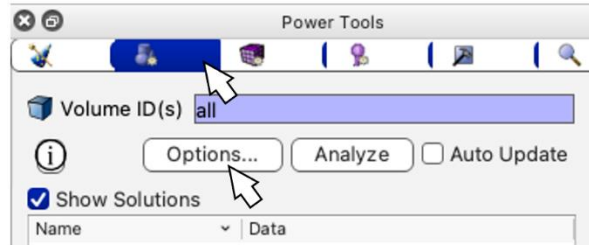

Figure 1. Navigation to Power Tool and Options panel.
1. Navigate to the Geometry Power Tool by clicking on the Geometry icon in the power tools window as shown in Figure 1.
2. Select the **Options...** button shown in Figure 1.